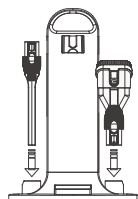

Fig 2
2. Place the crevice tool and the 2-in-1 tools to the base stand (Fig 2).